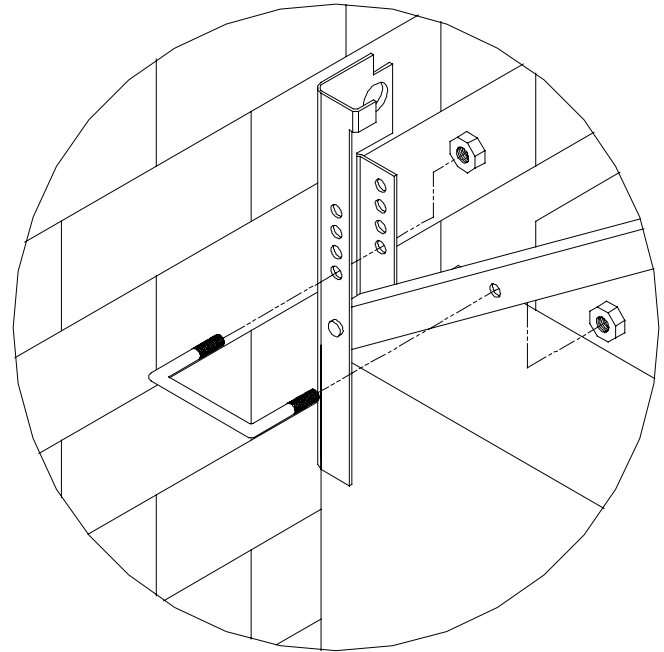

FIGURE 3
5. At this point, the header mounting brackets can be drilled or you can wait until after Step 7. To do it now, make sure the distance between mounting brackets is correct for the unit to be installed. (Reference 5656-0007, Figure 3) Drill appropriate hole for the style of anchor to be used, into the center of the 1 in (25 mm) diameter hole on the header mounting bracket.
7. While still on the side you just finished, slide one end of the installation safety "U" bolt 1/3 the way into the hole located on the side arm of the top frame assembly. Lift the front bar assembly until the "U" bolt aligns with the desired hole on the header mounting bracket. (See Figure 3) (Note: The correct hole is when the "U" bolt can be installed and leave an ample amount of slack in the cover in order to get backer board into the header mounting bracket.) Install the "U" bolt all the way through the holes. Attach the supplied nuts to the "U" bolt threads. For normal installations, the nuts just can be hand tightened